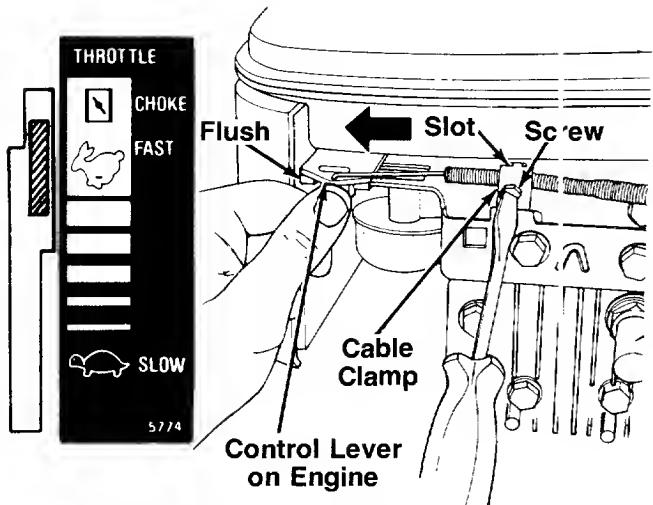

FIGURE 6A.—Models 166R and 176R
- Push the throttle control lever on the handle all the way forward to CHOKE, then back it off two "clicks" (approximately 5/16"). See figure 6A.
- The throttle control cable is attached to the upper handle. Route the throttle control cable under the lower handle, inside the handle mounting bracket and beneath the catcher panel (Model 176R only). Hook the "Z" end of the throttle control cable into the hole in the control lever on the engine. See figure 6A.
- Using a 5/16" wrench or nutdriver, remove the screw on the cable clamp shown in figure 6A. Slip the control cable under the clamp. Replace the screw (cable should be above the screw), but do not tighten screw (cable must still move freely beneath the clamp). Make certain the tab on the cable clamp is seated into the slot on the engine.
- Push the control lever on the engine as far toward the **outside** of the engine as it will go. The edge of the control lever should be flush with the bracket on the engine. See figure 6A. Hold the control lever in this position as you tighten the screw on the cable clamp to secure the throttle cable.